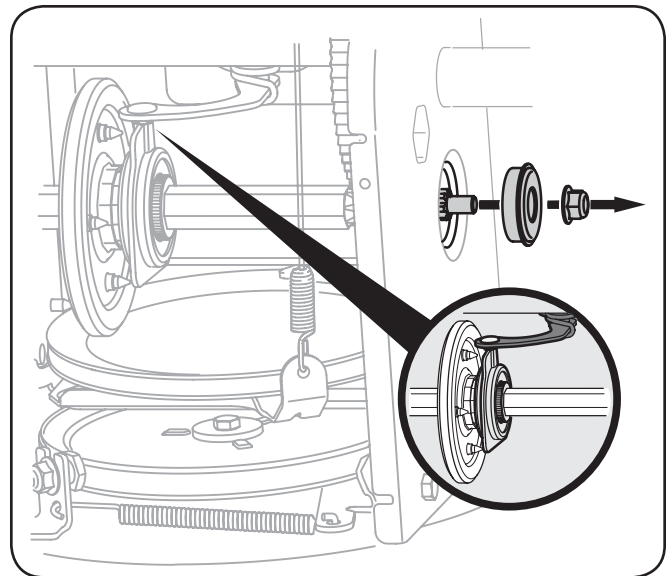

Figure 7-8
5. Carefully remove the hex nut which secures the hex shaft to the snow thrower frame and lightly tap the shaft's end to dislodge the ball bearing from the right side of the frame. See Figure 7-8.
NOTE: Make sure the shift lever pin is in place in the bearing housing. See Figure 7-8 inset.